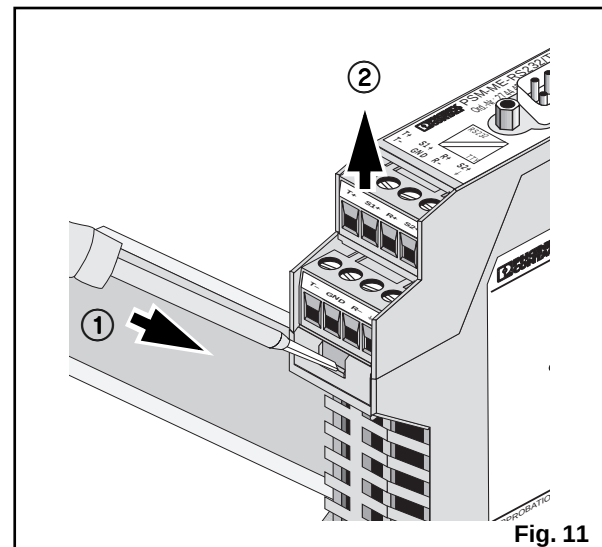

Fig. 11
- Yellow: Transmit data (TD), dynamic
- Green: Receive data (RD), dynamic
For configuration, release the top of the housing on both sides ①. Pull the p.c.b. out of the housing as far as possible ② (fig. 11).